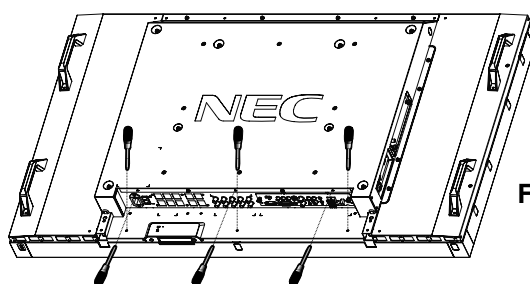

Figure 8
- Retirez les six vis (Figure 8).